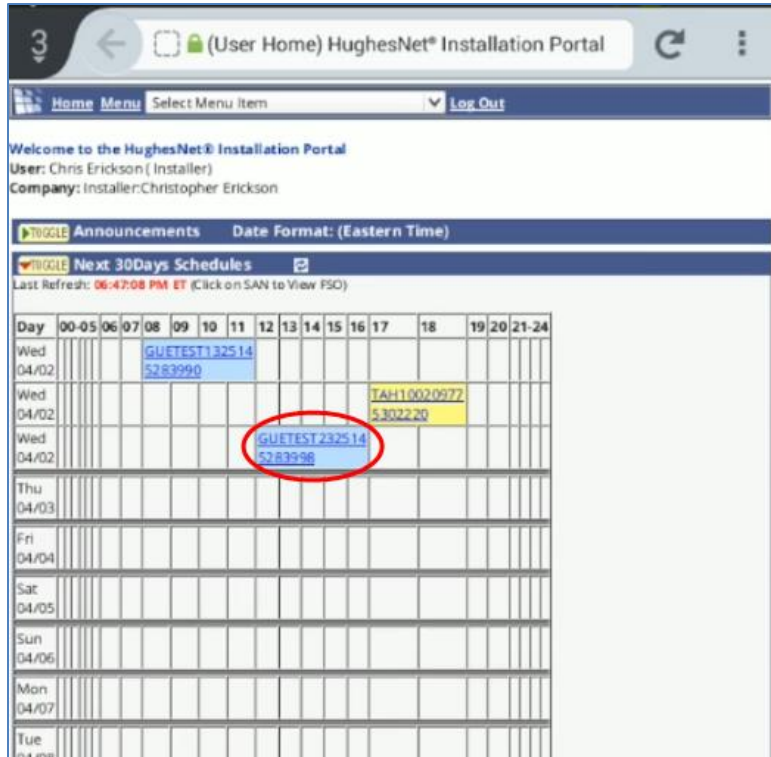

Figure 59: Select current FSO from Installation Portal calendar
- In your calendar of upcoming installations, tap the link for your current FSO (circled in Figure 59).